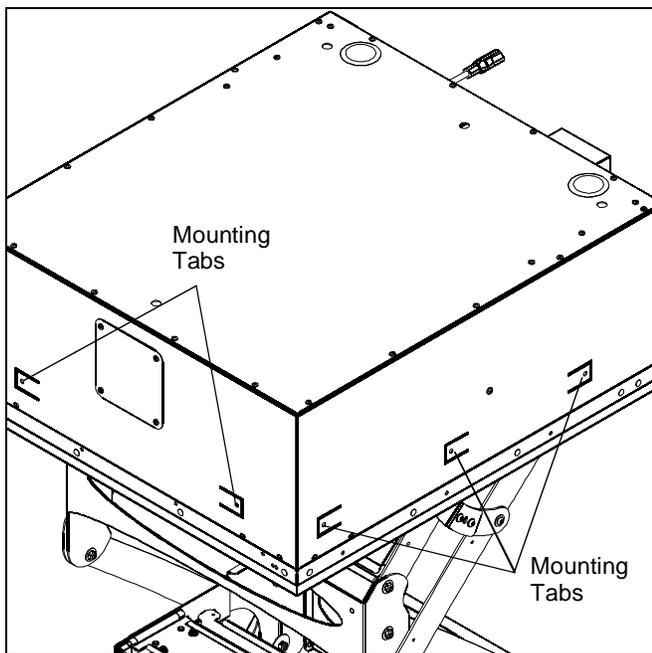

Figure 10
1. Use 1/4" x 1" (minimum) Grade 2 lag screws (not provided) to secure SL236 to the joists or wood framework, using the mounting tabs located on the sides of the SL236 housing. (See Figure 10).